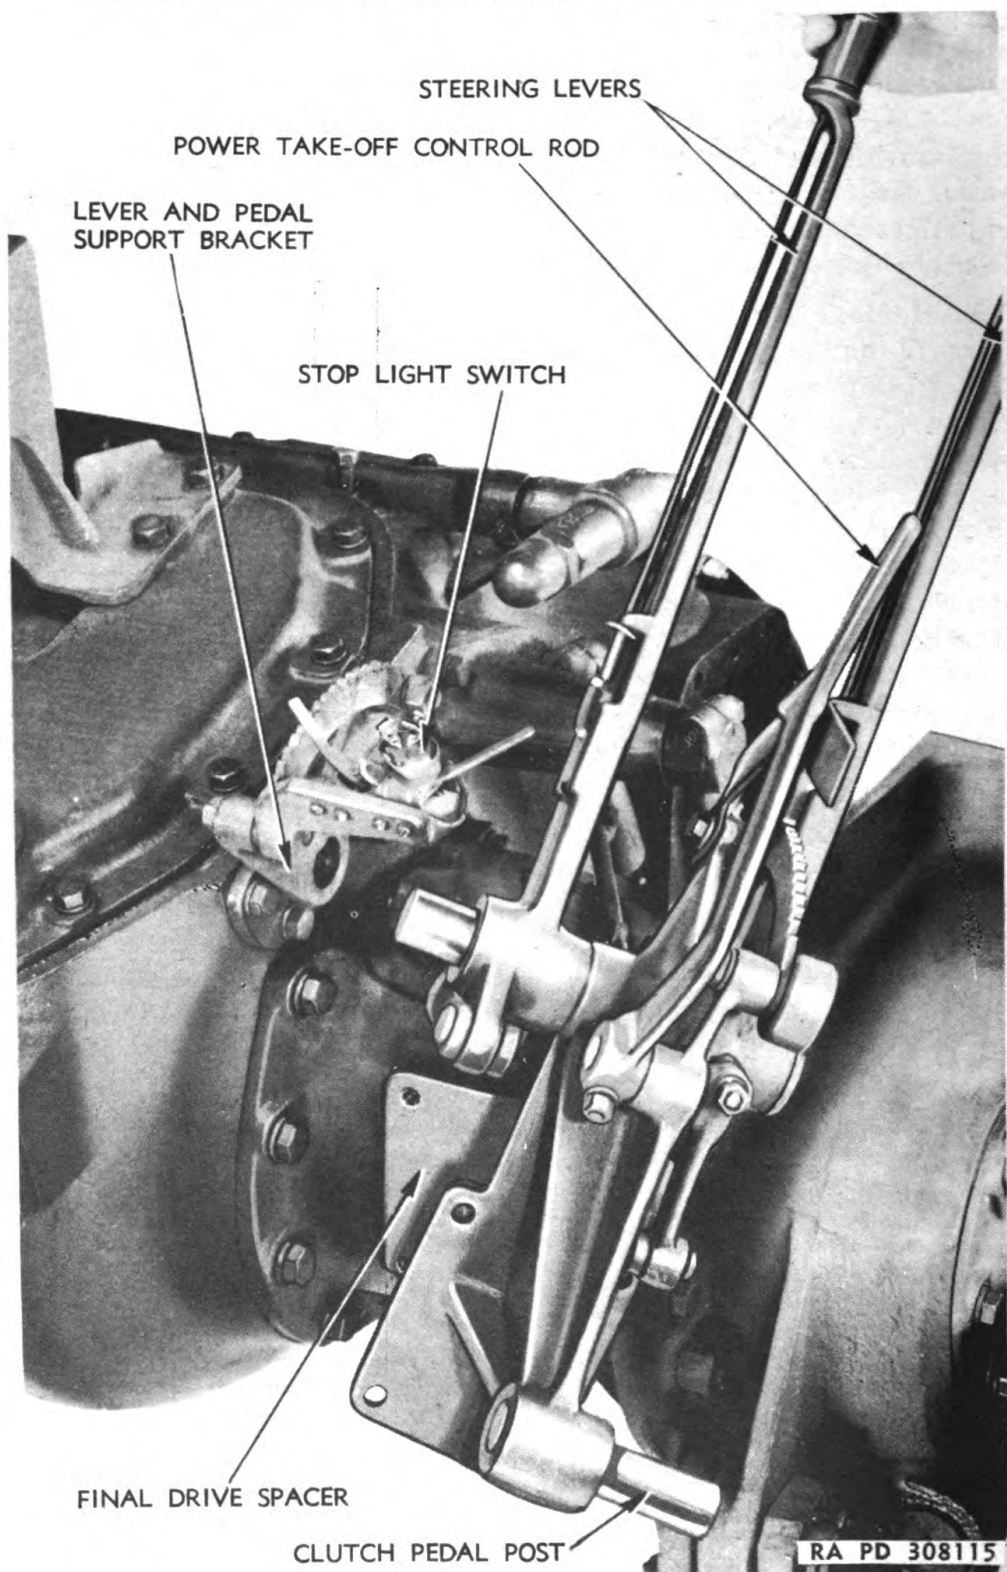
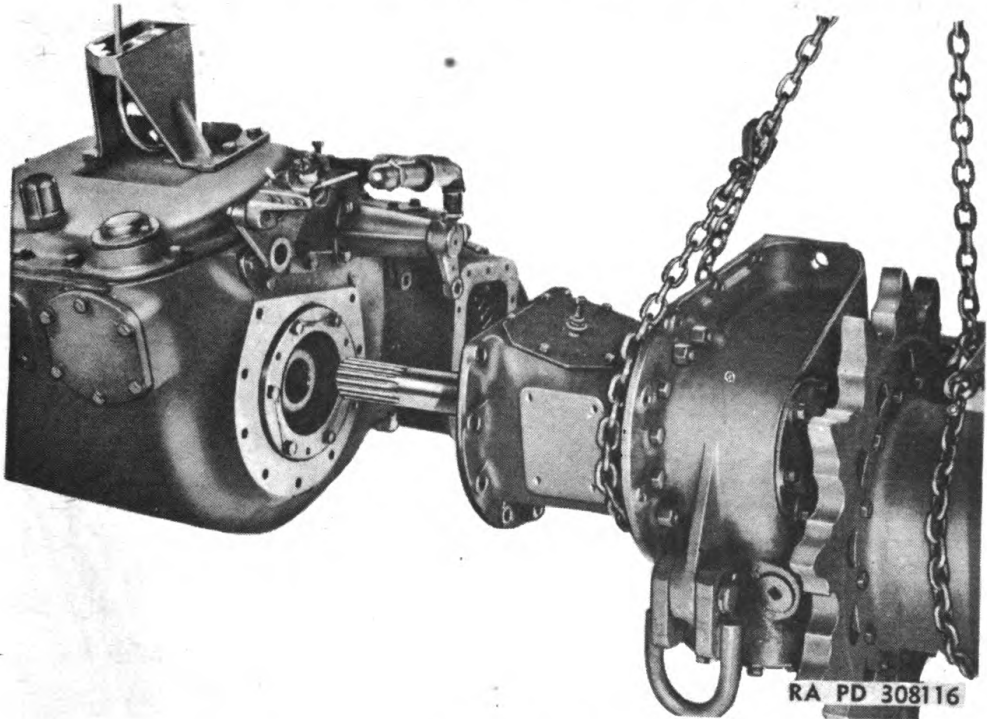

Figure 15 — Removing Steering Lever Assembly
Figure 16 – Final Drive Removal
d. **Remove Final Drive Assemblies.** Slide clutch pedal off post on steering lever bracket. Remove yoke pins to disconnect rear ends of steering brake control rods from levers on control shafts. Remove the four cap screws attaching steering lever bracket to front of final drive spacer. Carefully pull lever assembly sideways to slide lever shaft out of steering lever and clutch pedal support (fig. 15) so that stop light switches will not be damaged in removing lever assembly. Remove nine cap screws that attach final drive spacer to differential case, then, using chain hoist as shown in figure 16 to support the weight, pull final drive and sprocket assembly sideways away from differential. Remove second final drive assembly in same manner.